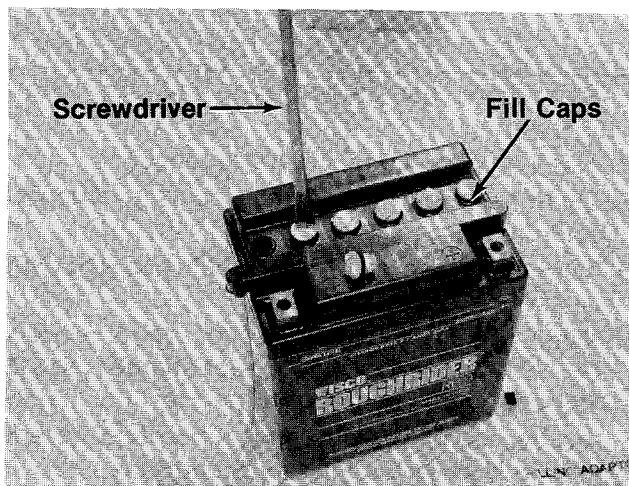

FIGURE 7.
4. Remove the six fill caps from the top of the battery. A screwdriver will make it easier. See figure 7.